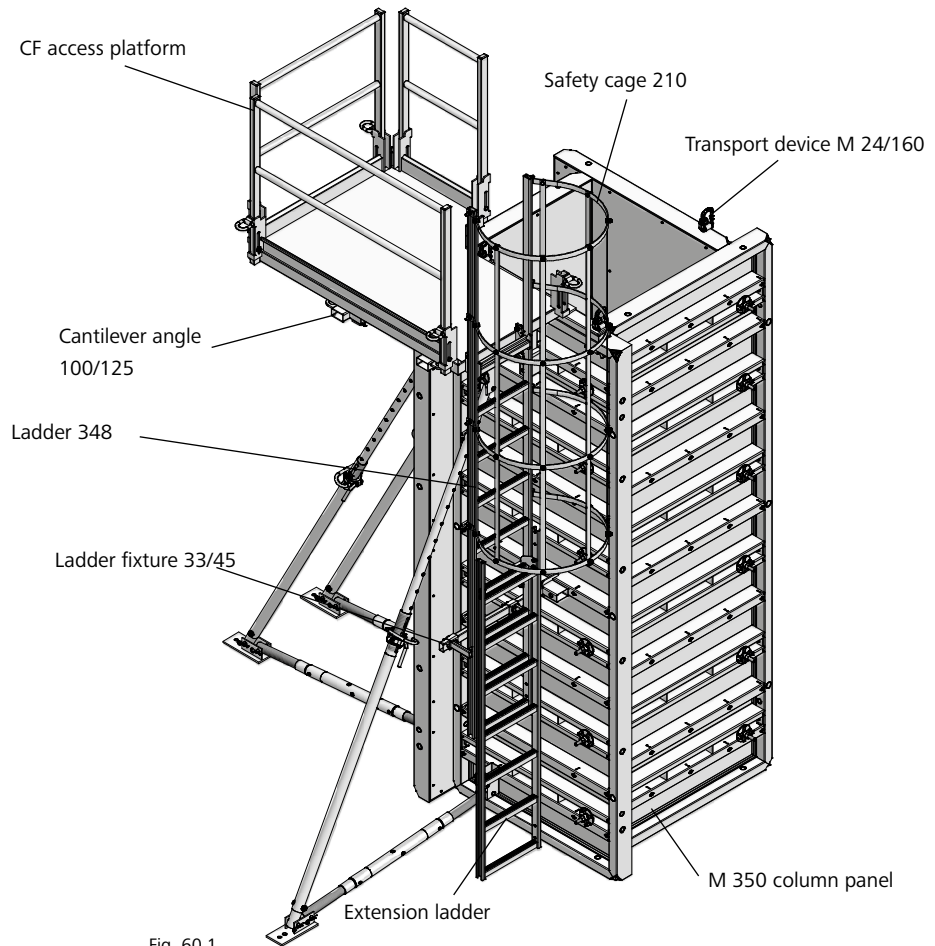

Fig. 60.1
The column formwork made up of M 350 column panels can be equipped with the CaroFalt (CF) access platform and ladder access to allow work to be performed safely at all heights (Fig. 60.1). It thus ensures work safety at all heights.